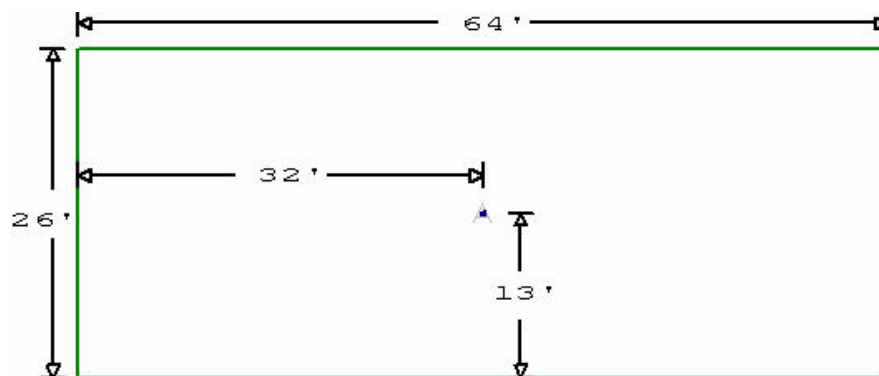

Figure 8-1 Roof outline with drain
Before worrying about the insulation layout, you'll open a new project and draw the roof outline. This project contains a simple roof section with a single drain at the center and a low area on the drain. The roof will look like Figure 8-1.
2. Add a roof section with the dimensions of the roof in Figure 8-1.
3. Add a drain in the center of the roof, as indicated in Figure 8-1.
Currently the top and bottom walls are 13 feet from the low area, and the left and right walls are 32 feet from the low area (see Figure 8-1 on page 88).